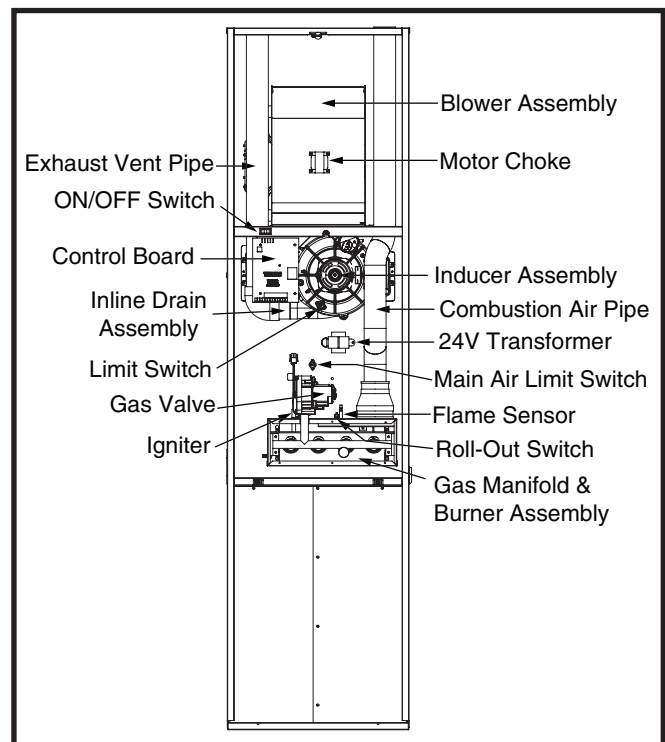

Figure 23. Furnace Components
- If the inducer blower is operating, and items above have been verified, check the blower limit switch and reset if necessary. See Figure 23 for component location.
The descriptions below are various functional components that affect the operation and shutting down of this furnace. Some of these components and their locations are shown in Figure 23. If any component of the furnace must be replaced, use only factory authorized replacement parts specified in the Replacement Parts List provided online.